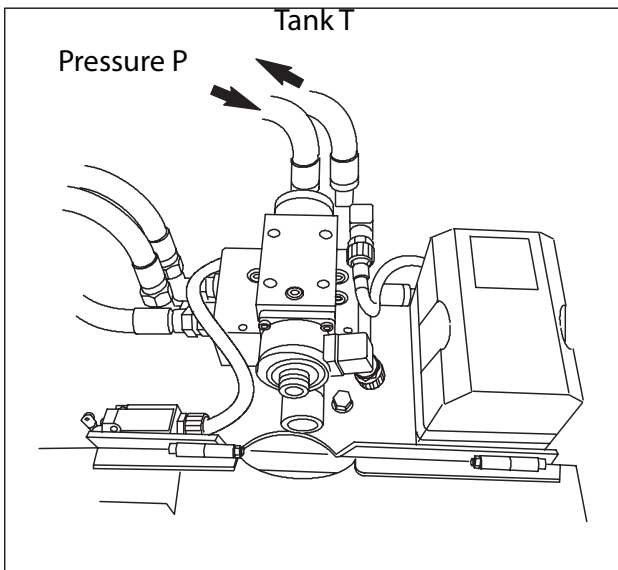

Fig. 8. Connecting the hydraulics
6. Connect the hydraulic hoses. Connect the pressure hose (P on the valve) to the pressure connector of the tractor's hydraulic system. The maximum operating pressure is 175 bar. Connect the return hose (T) to the return connector of the double-acting valve, or preferably directly to the tank. Fig. 8.